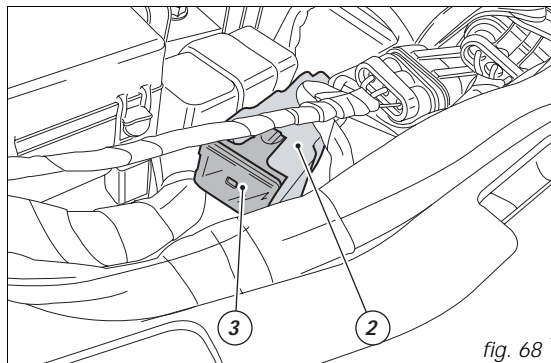

fig. 68
The 40A fuse (2) placed on the side of the fuse box (fig. 68) protects the electronic regulator.